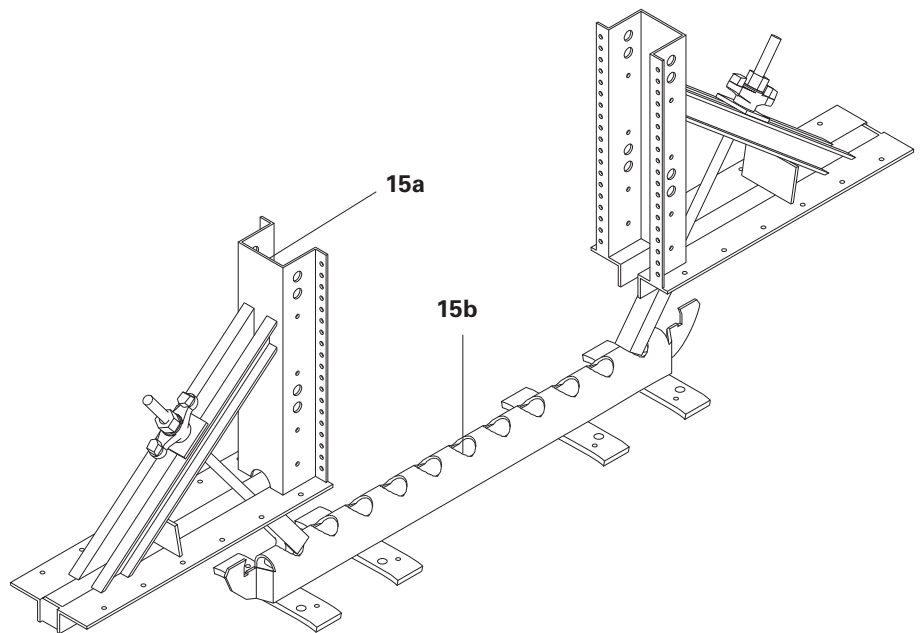

Fig. A7.01
- 1 x UZ Perforated Rail 129 = 95 cm (Fig. A7.01)